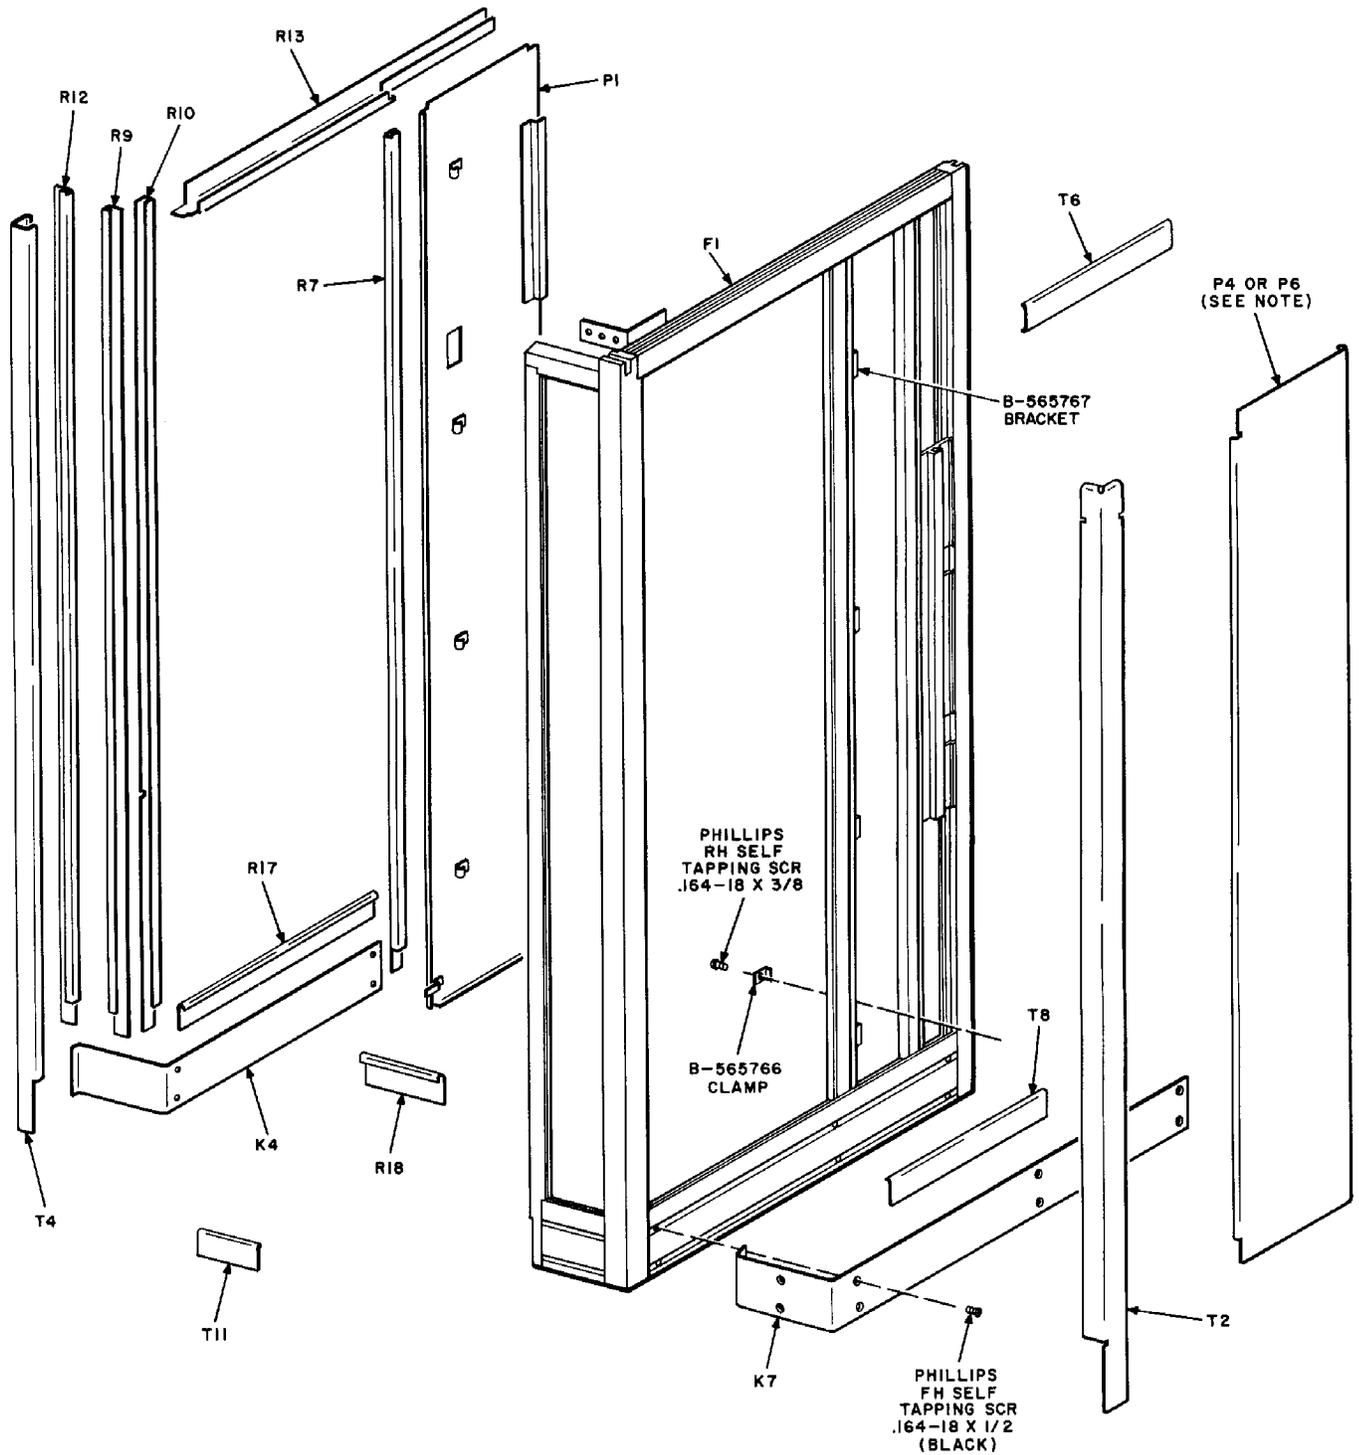

Fig. 16—F-1 Wall
- (ad) Remove coverplate from the blower switch and install P1 panel (Fig. 16). See Fig. 6 for correct method of installation. Secure P1 to wall using two .164-18 by 3/8 unpainted Phillips round head screws.
(an) Install K4 and K5 inside kickplates (Fig. 16 and 15, respectively) using eight .164-18 by 1/2 painted Phillips flathead self-tapping screws.